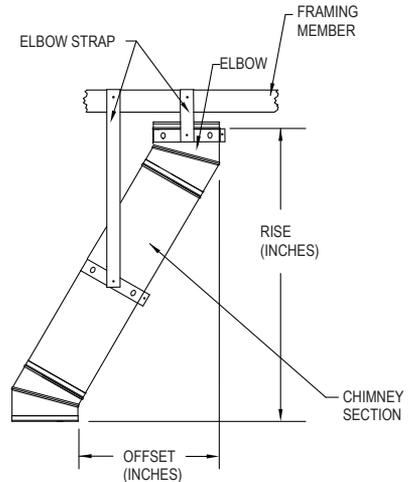

Figure 15
the second Elbow above the Chimney Section to complete the offset (**Fig 15**).
2. Secure Offset: Place the Elbow Strap's band around the angled portion of the top Elbow, then tighten the nut and bolt until the clamp is firm. Wrap the Elbow Strap end over an adjacent joist or rafter and secure it with at least two 8-penny nails or #8 x 1-1/2" screws. Do not add more Chimney Sections until the Elbows are supported. Be sure that the chimney remains vertical (**Fig 15**).